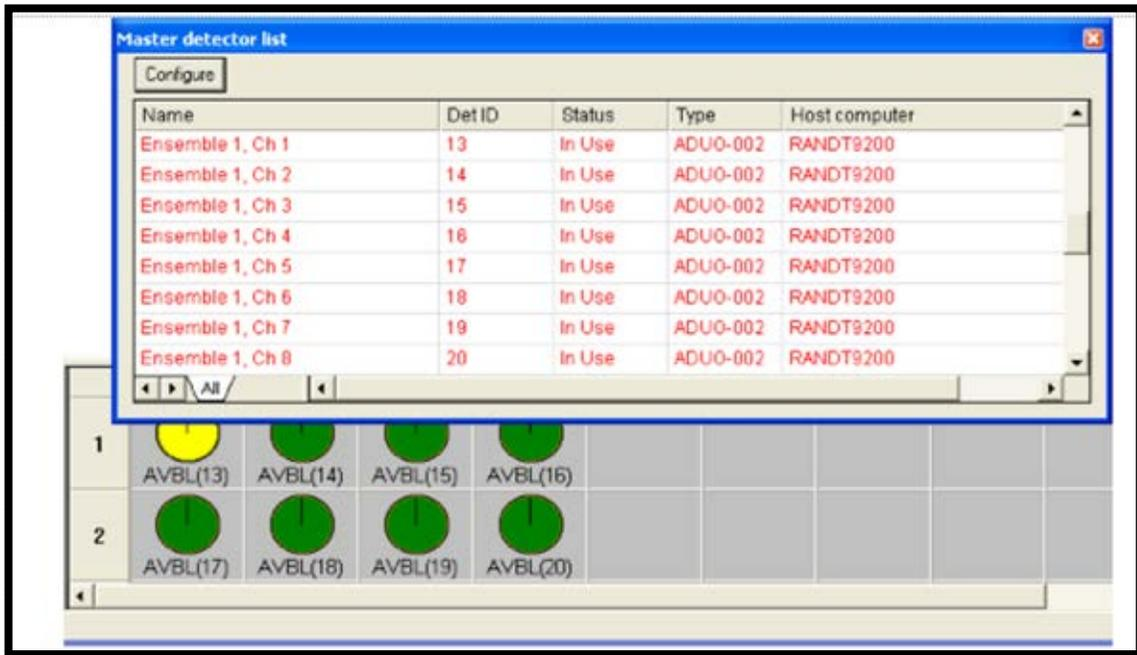

Figure 29. Detector Grid Showing Ensemble Detectors Assigned and Logically Arranged
- 4) Repeat until all detectors are displayed on the grid (Figure 29), click and drag icons as needed to arrange them in an intuitive layout, then close the Master Detector List by clicking its upper-left **X** box.